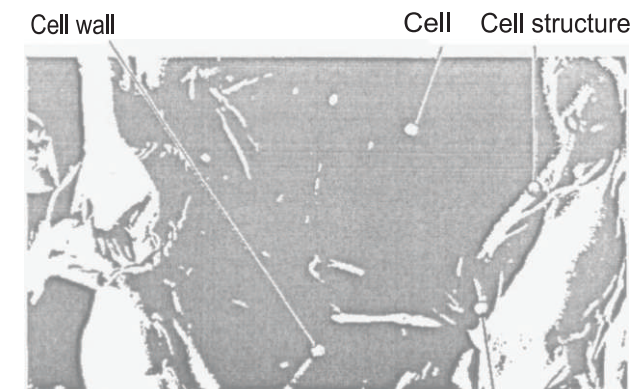

FIGURE 10
3) **Semi-closed Cell Type:** This type of insulation has many small independent cells. The walls of each cell shut from others, but imperfectly. This gives it a water absorption value of over 10% by weight according to ASTM D 1056. This insulation is made from lightweight polyethylene foam (PE foam) and low-density polyurethane foam as detailed in figures 10 and 11.